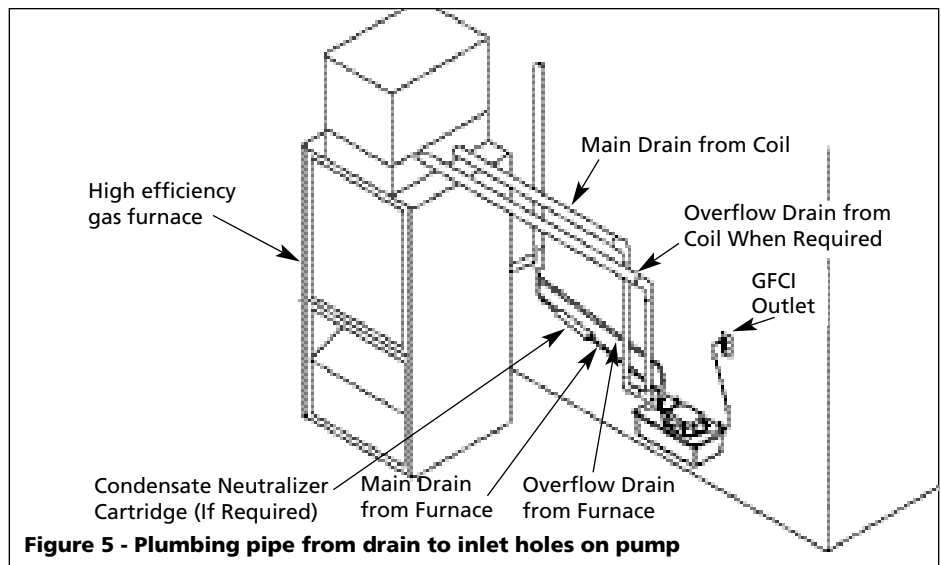

Figure 5 - Plumbing pipe from drain to inlet holes on pump
- B. Plumb flexible tube or pipe from the condensate drain, and from the furnace drain (if applicable), to the inlet holes on the pump. Refer to Figure 5.